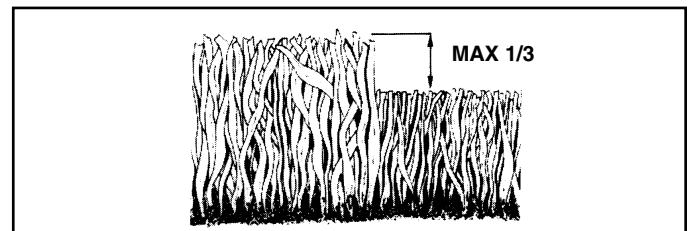

FIG. 10A
- For best results, adjust the mower cutting height so that the mower cuts off only the top one-third of the grass blades (See Fig. 10A). For extremely heavy mulching, reduce your width of cut on each pass and mow slowly.